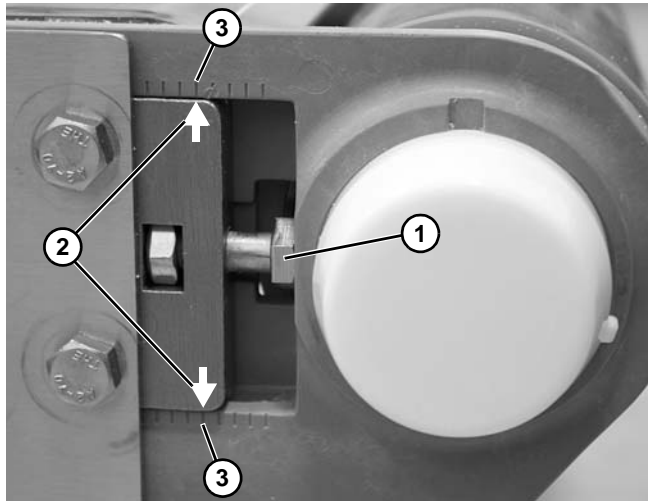

Figure 72
1. Tighten or loosen screw (**Figure 72, item 1**) on each side to correct tracking. Align the same arrows (**Figure 72, item 2**) and marks (**Figure 72, item 3**) on each side of the conveyor as a starting point for tracking the belt.